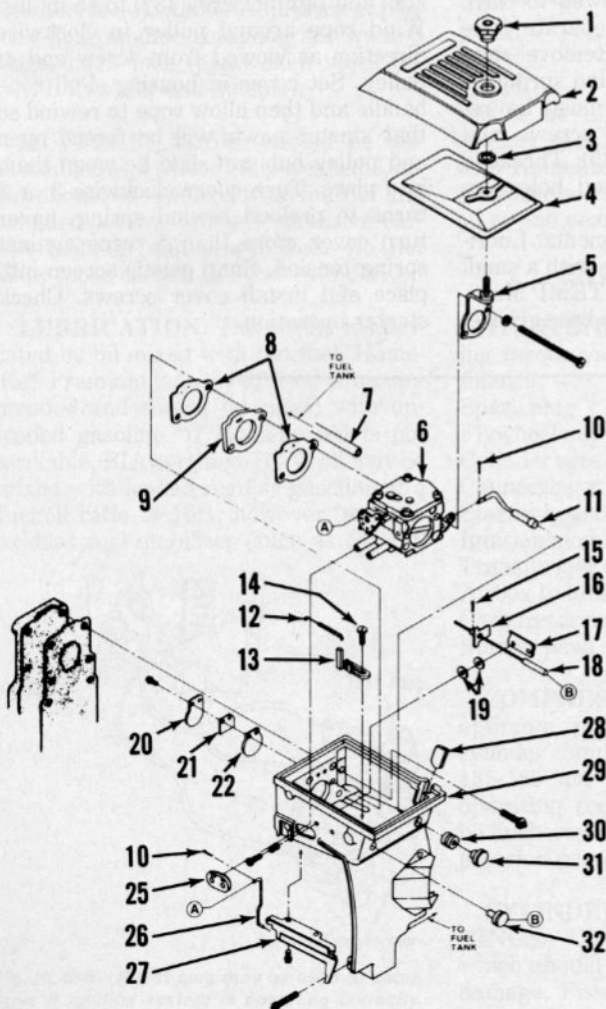
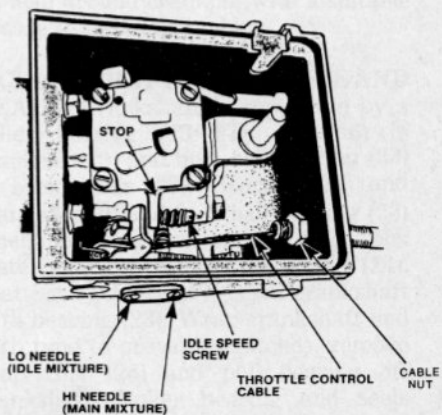

Fig. HL43-1—Exploded view of air box assembly on Model XL-12 engine.
Fig. HL43-1A—View of brushcutter air box. Outside throttle cable nut is not shown.
PUMP GOVERNOR. On pump applications, engine is equipped with air-vane type governor as shown in Fig. HL43-1.
BRUSHCUTTER GOVERNOR. The engine used in brushcutter application is equipped with an air-vane type governor; refer to Fig. HL43-1.
To adjust governor using vibrating reed or electronic tachometer, proceed as follows: With engine warm and running and throttle trigger released, adjust position of cable nuts (see Fig. HL43-1A) on remote control cable so that engine slow idle speed is 2500 rpm, or just below clutch engagement speed. Then when throttle trigger is fully depressed, engine no-load speed should be 6300 rpm. To adjust maximum governed no-load speed, loosen screw (14—Fig. HL43-1) and move speed adjusting plate (13) as required to obtain no-load speed of 6300 rpm. When adjusting maximum no-load speed, be sure that governor link (26) is reconnected at hole "A" in carburetor throttle shaft lever. Governor spring (12) is connected